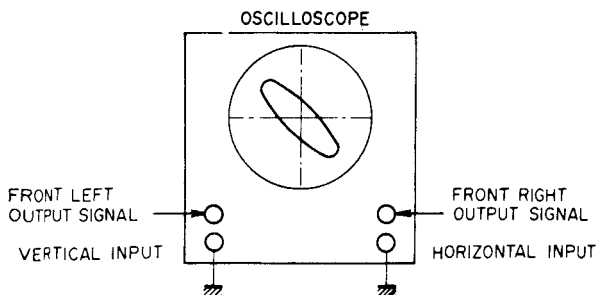

Fig. 10
- 1) Connect front left signal and front right signal from line output terminal to vertical and horizontal input of Oscilloscope (See Fig. 10).